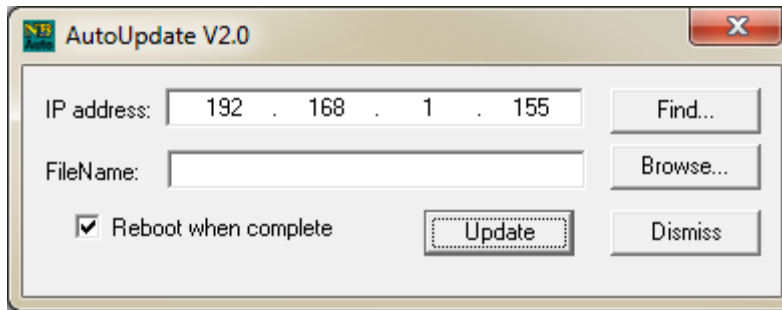

Figure 19. AutoUpdate Screen
1. Double click on the AutoUpdate icon and Figure 19 will be displayed.
6. To upload the new firmware, click the Update button and Figure 19 will be displayed for a few seconds.